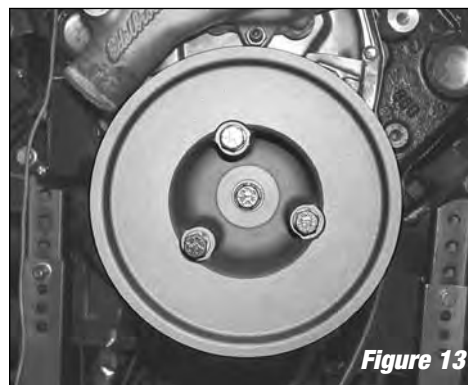

Figure 13
9. Install supercharger drive pulley in front of the factory accessory crank pulley using the supplied 3/8-24 x 3.75" long shoulder bolts and 3/8" lock washers (**See Figure 13**). Install the supplied 7/16-20 x 2.75" balancer bolt with a 7/16" lock washer first and snug the bolt down until the pulley is flush. Do not fully tighten at this time. Slip the drive belt over the top and bottom pulleys, and make sure the pulleys are in-line. If they are not aligned, remove the drive belt and pulley from the crankshaft and use the provided shims to align the pulley. Once properly aligned, torque the balancer bolt to 60 ft./lbs., and torque the pulley bolts to 32-35 ft./lbs. You may leave the drive belt uninstalled at this time.